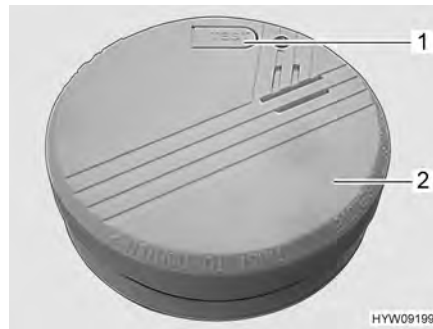

Fig. 51 Smoke alarm
- Press the test button (Fig. 51,1) on the smoke alarm (Fig. 51,2) until the alarm tone sounds. The alarm tone falls silent after the test button is released.